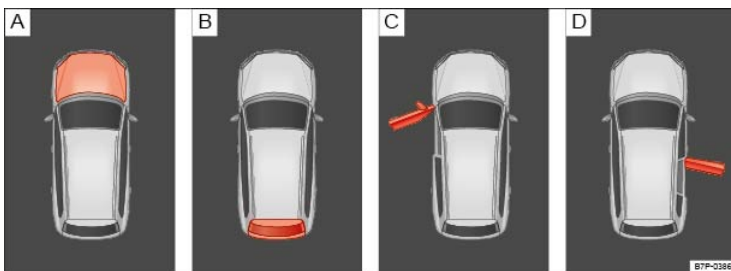

Fig. 12 In the instrument cluster display: A: Open engine hood, B: Open trunk lid, C: Open front driver side door, D: Open rear passenger side door.
- Open door, engine hood, or trunk lid ⇒ Fig. 12.